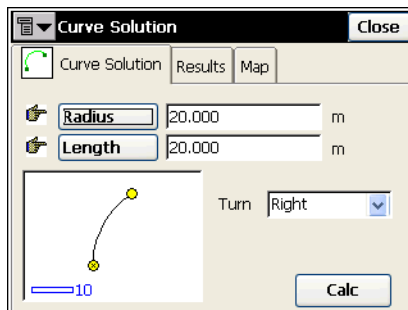

Figure 8-7. Curve Solution.
1. Select the curvature parameters of the curve (Radius, Deg Chord, or Deg Curve) and the length parameter of the curve (Length, Chord, Tangent, Mid Ord, External or Delta), and the turn direction (Figure 8-7).